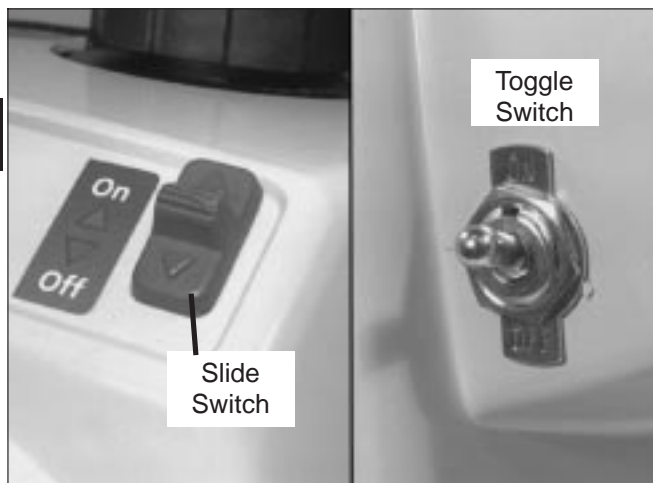

Figure 1-3. Typical Ignition Switches.
1. If the unit is equipped with an ignition switch, make sure the switch is in the "START" or "ON" position (Figure 1-3).